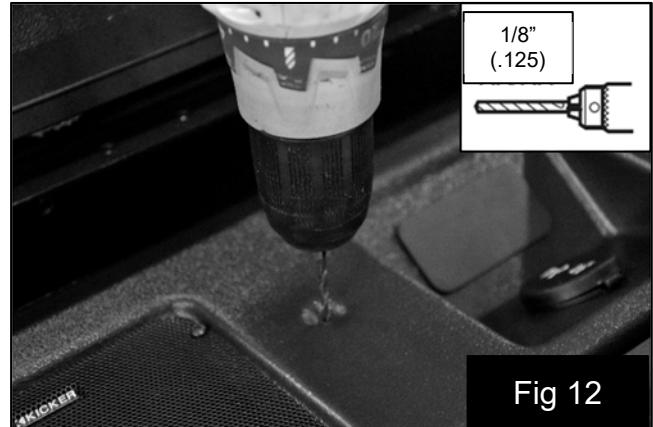

Fig 12
17. Temporarily install the speaker baffle and loosely install all six supplied replacement bolts. Fig 12
19. Predrill the two pilot holes for the supplied fine-threaded screws using a 1/8 (.125) drill bit and then remove the bolts and speaker baffle. Fig 12